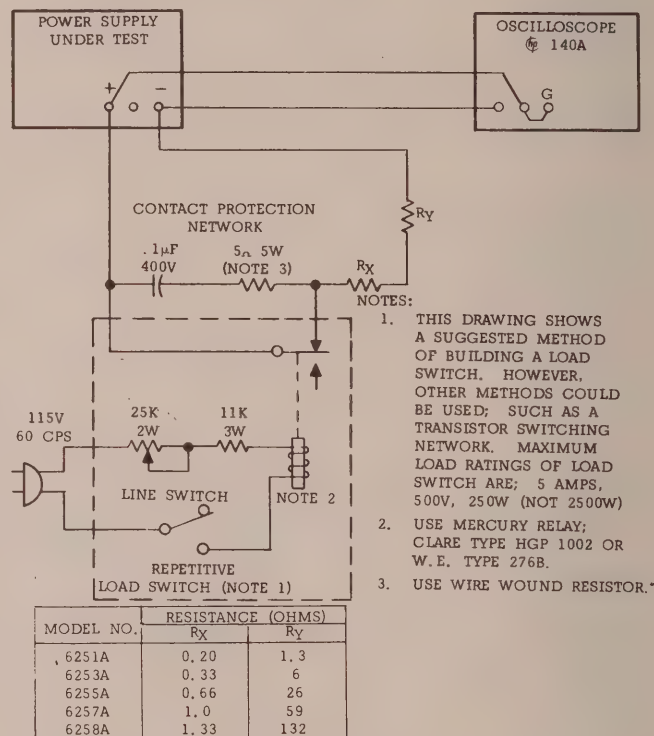

Figure 5-7. Transient Response, Test Setup
a. Connect test setup shown in Figure 5-7.